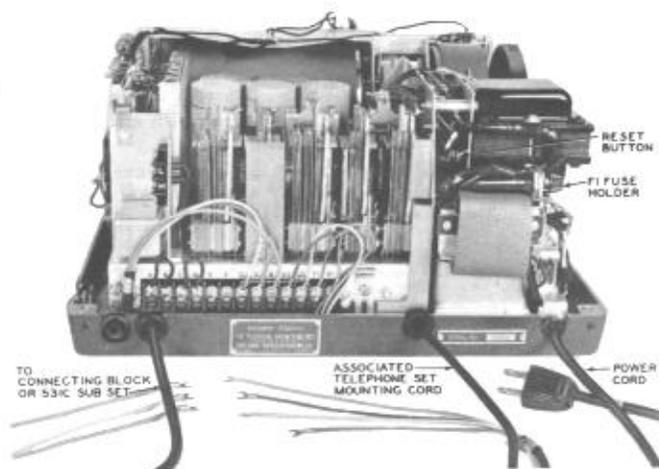

Fig. 3—1B Telephone Answering Set—Rear
2.03 The 1B telephone answering set is equipped with a fuse (F1) mounted in an HKP fuse holder. For fuse inspection turn top of fuse holder counterclockwise and withdraw (see Fig. 3).
2.04 The 1B telephone answering set is equipped with a thermal time delay relay (K9) to protect the erase coils from damage in the event of a mechanical or electrical failure. Depress the reset button to restore the power supply (see Fig. 3).